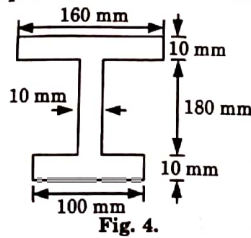

Fig. 4.
e. Find the shape factor of the I-section shown in Fig. 4.